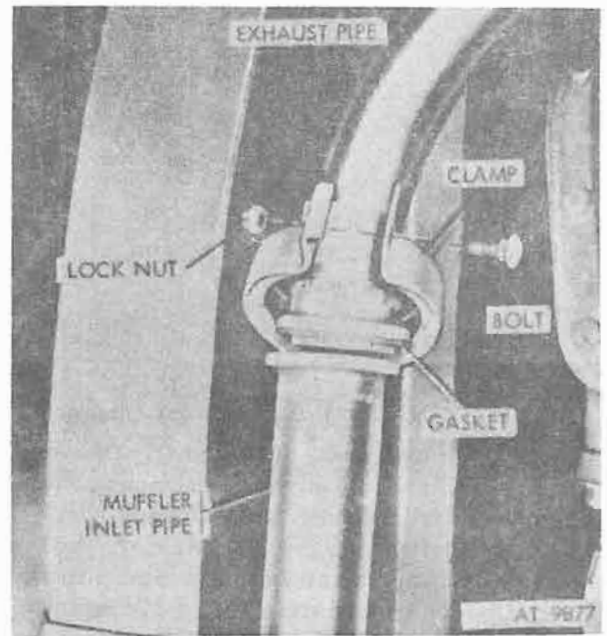

Figure 4-21. Exhaust pipe and clamp.
(13) Remove two locknuts and bolts at clamp securing muffler inlet pipe and exhaust pipe (fig. 4-21).